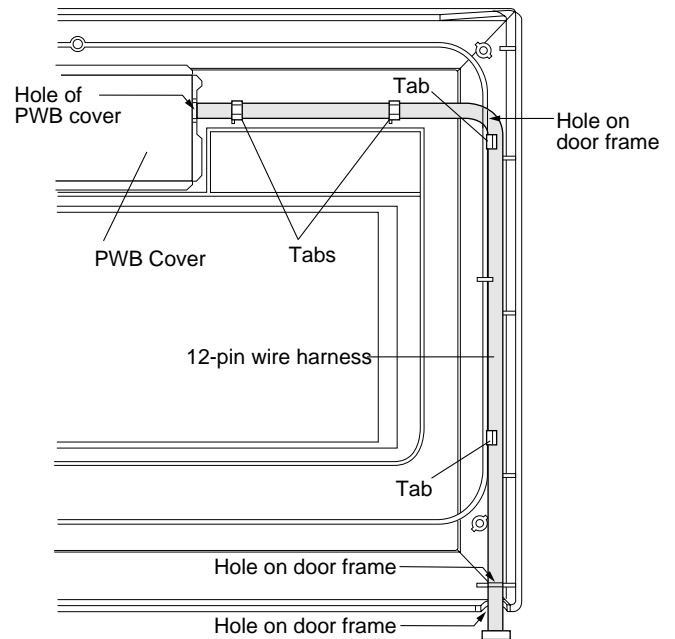

Figure C-10. Routing of 12-pin wire harness
held by the four (4) tabs and the three (3) holes on the door frame as shown in Figure C-10.